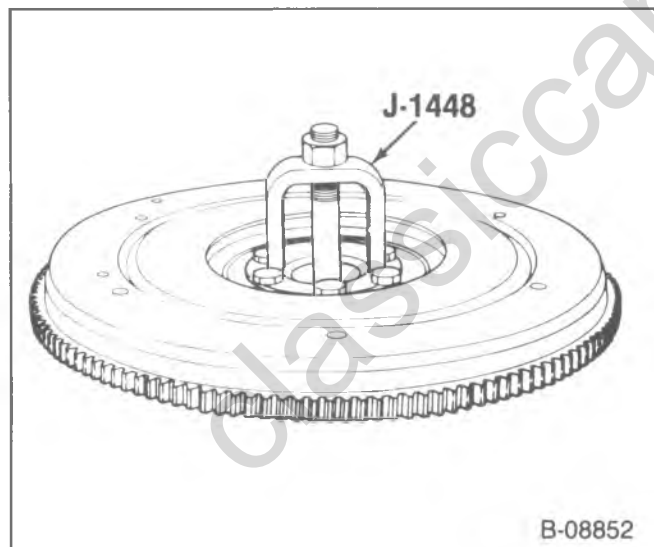

Figure 12—Removing the Pilot Bearing
8. Cover assembly (213) and the driven plate (214).
9. Pilot bearing (217) if it is worn or damaged. Use J-1448 or J-23907 as needed (figure 12).